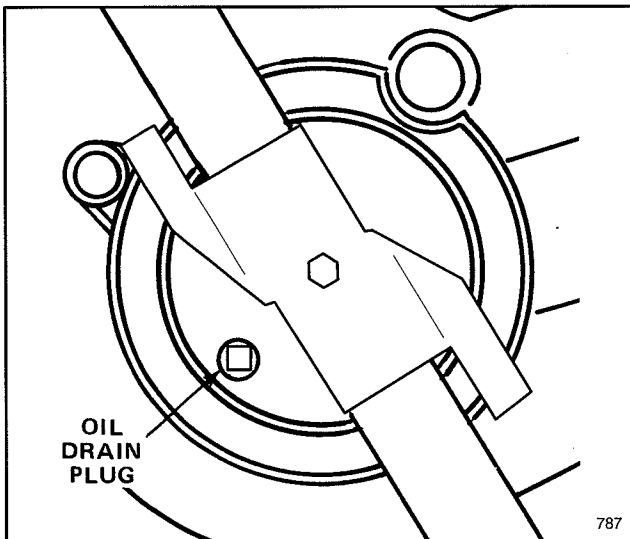

Figure 14
3. Tip mower on its right side. Remove drain plug from underside of mower using a 3/8" square drive (Fig. 14). Place a drain pan under mower.